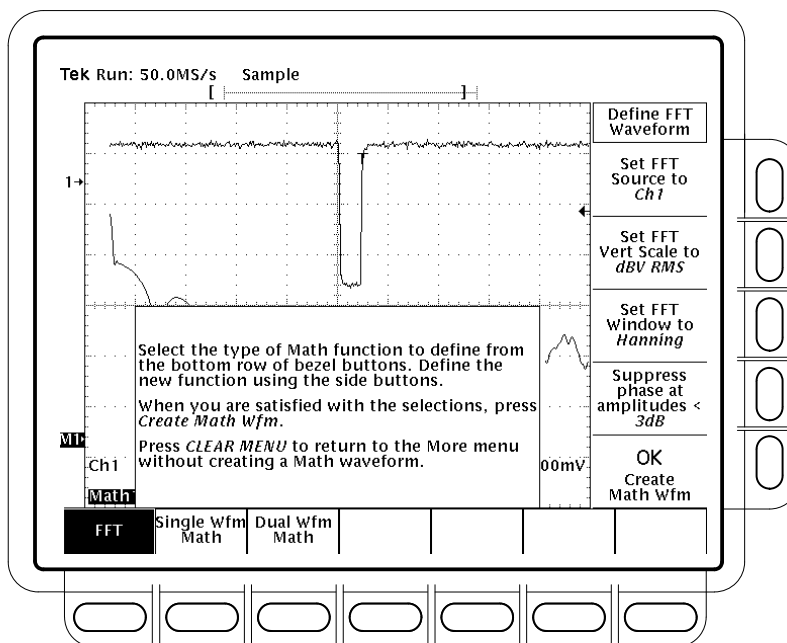

Figure 3-87: Define FFT Waveform Menu
5. If the selected math waveform is not FFT, press **Change Math Definition** (side) → **FFT** (main). See Figure 3-87.